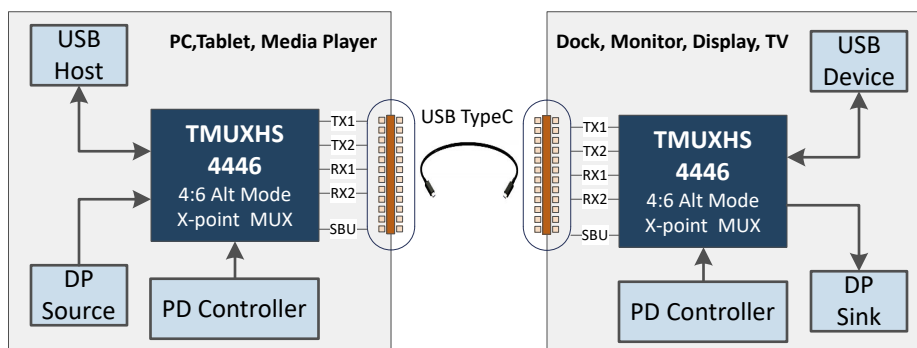

図 7-1. TMUXHS4446 in USB Type-C Source and Sink Applications
The crosspoint selection of the device is typically configured by a USB power delivery (PD) controller by an I²C interface. The TMUXHS4446 is an analog mux which can be used in USB Type-C ecosystem with DP as alternate mode in two distinct application configurations: one is for DP Source/USB Host, the other one for the DP Sink/USB Device/Dock. 図 7-1 shows a typical application block diagrams for these two cases: left source and right sink.